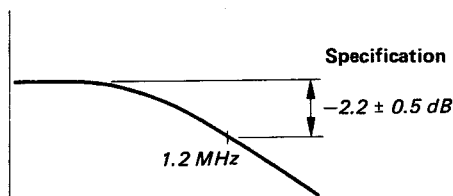

Fig. 5-75.
8. Connect the probe to TP13, and make sure the frequency characteristic of the R-Y L.P. filter circuit is within its specification. (See Fig. 5-75.)
9. Connect the THROUGH OUT signal to TP10, and the probe to TP11. Make sure the frequency characteristic of the B-Y L.P. filter circuit is within its specification. (See Fig. 5-75.)